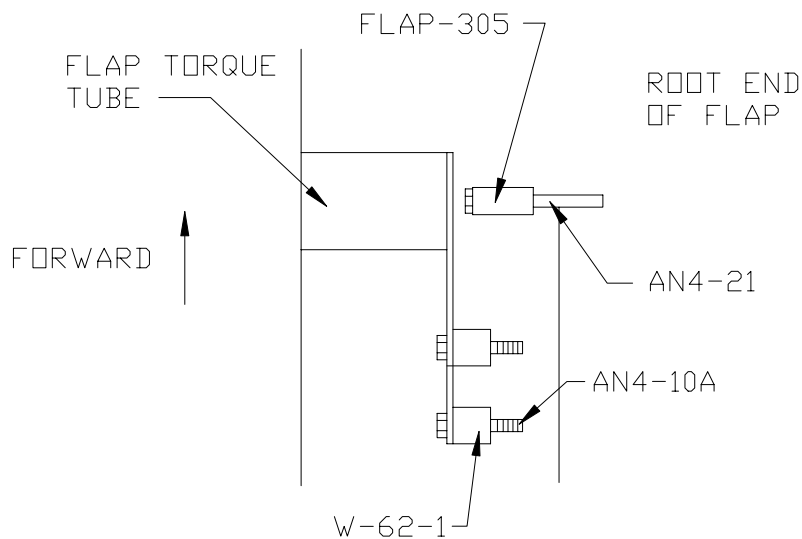

Figure 15.1.3
11) On the root end of the Flap slide the AN4-21 bolt from the inside through the AIL-26 bushing and root Flap hinge. Put on a FLAP-305 Flap Spacer and tighten it down with a AN310-4 castle nut and MS24665-132 cotter pin. **NOTE:** You will have to dis-assemble the Flap Torque Tube from the inside of the Cabin to complete the assembly. Figure 15.1.3.